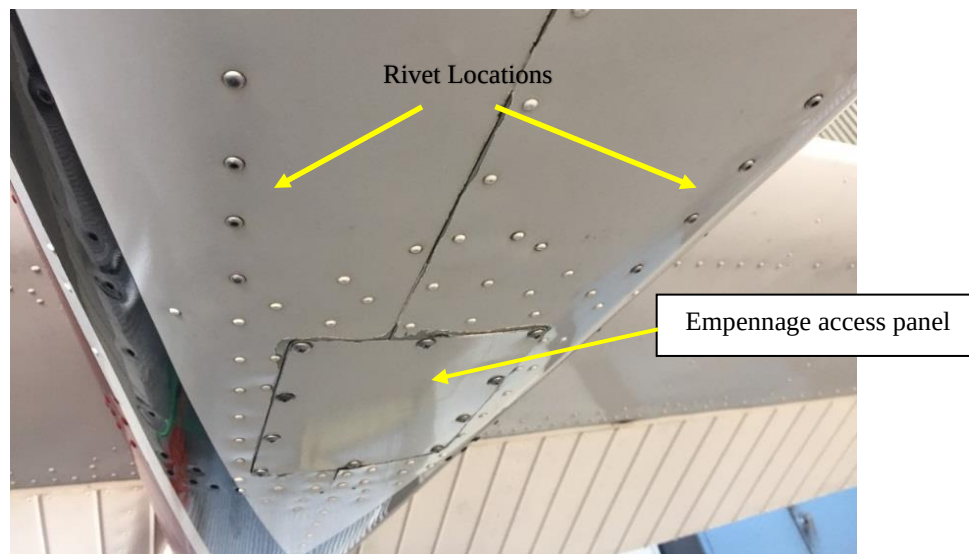

FIGURE 3-7 ACCESS PANEL SCREWS AND ZEE ANGLE RIVET LOCATIONS
4. Remove (10) fasteners that secure the bottom empennage access panel as shown in Figure 3-7.